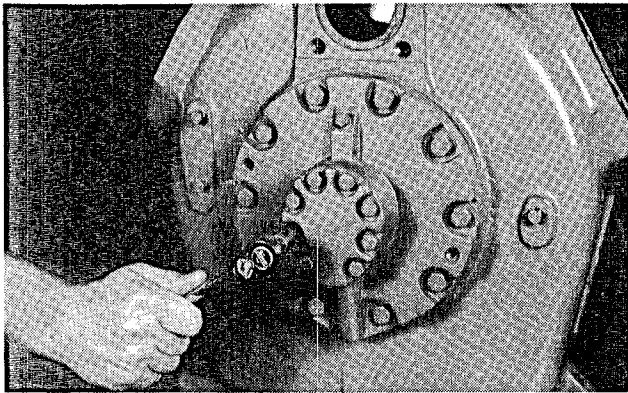

Figure 51
1. Remove all but two cover bolts at opposite sides of the cover (Figure 51).